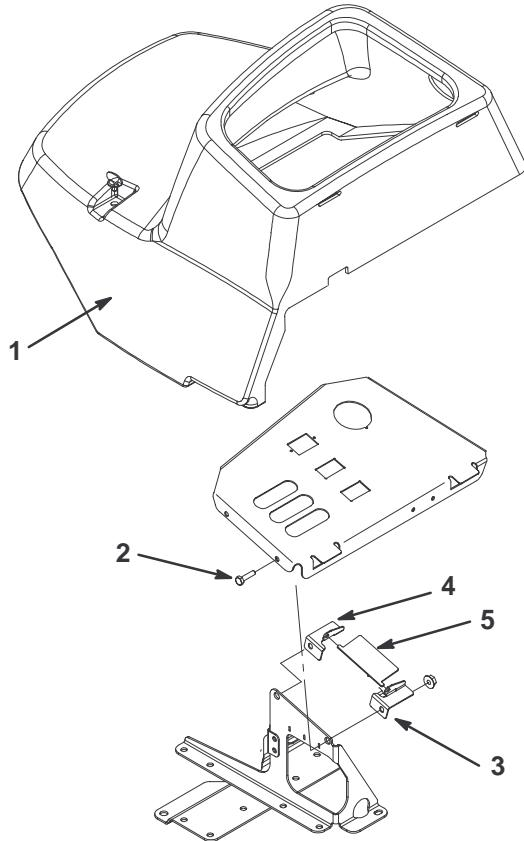

Figure 1
1. Rotate latches and remove control panel cover (Fig. 1).
2. Under front of control panel, locate ends of capscrews securing control panel to frame (Fig. 1).
3. Insert left hand latch bracket up thru lift lever slot and onto capscrew. Loosely secure with 1/4-20 flange nut (Fig. 1).
4. Insert right hand latch bracket up thru lift lever slot and onto capscrew. Loosely secure with 1/4-20 flange nut (Fig. 1).
5. On top of control panel, insert each end tab of lift latch into holes in latch brackets (Fig. 1). Tighten flange nuts.